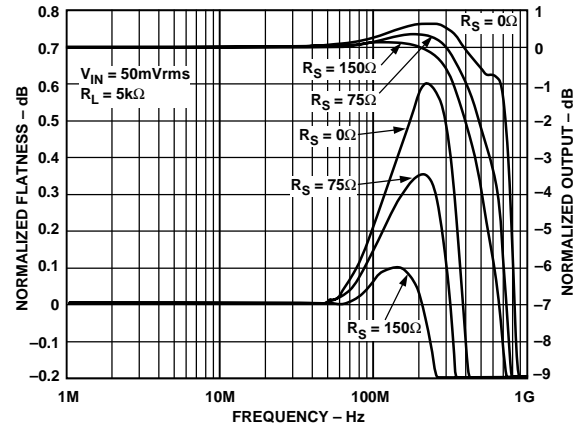

Figure 19. Frequency Response vs. Input Series Resistance
- ⁵A resistor (R_S) placed in series with the multiplexer inputs serves to optimize 0.1 dB flatness, but is not required (see Figure 19.)
series resistors at the input or output. If better flatness response is desired, an input series resistance (R_S) may be used (refer to Figure 19), although this will increase crosstalk. The dc gain of the AD8184 is almost independent of load for $R_L > 10 \text{ k}\Omega$. For heavier loads, the dc gain is approximately that of the voltage divider formed by the output impedance of the mux (typically 28Ω and R_L).